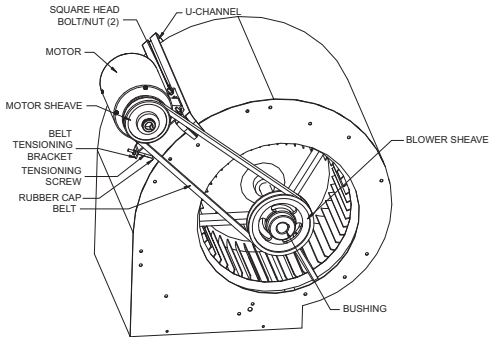

Figure 7 – Drive Package Assembly
6. Install the motor and drive package as shown in Figures 7, 8 and 9 on page 4.